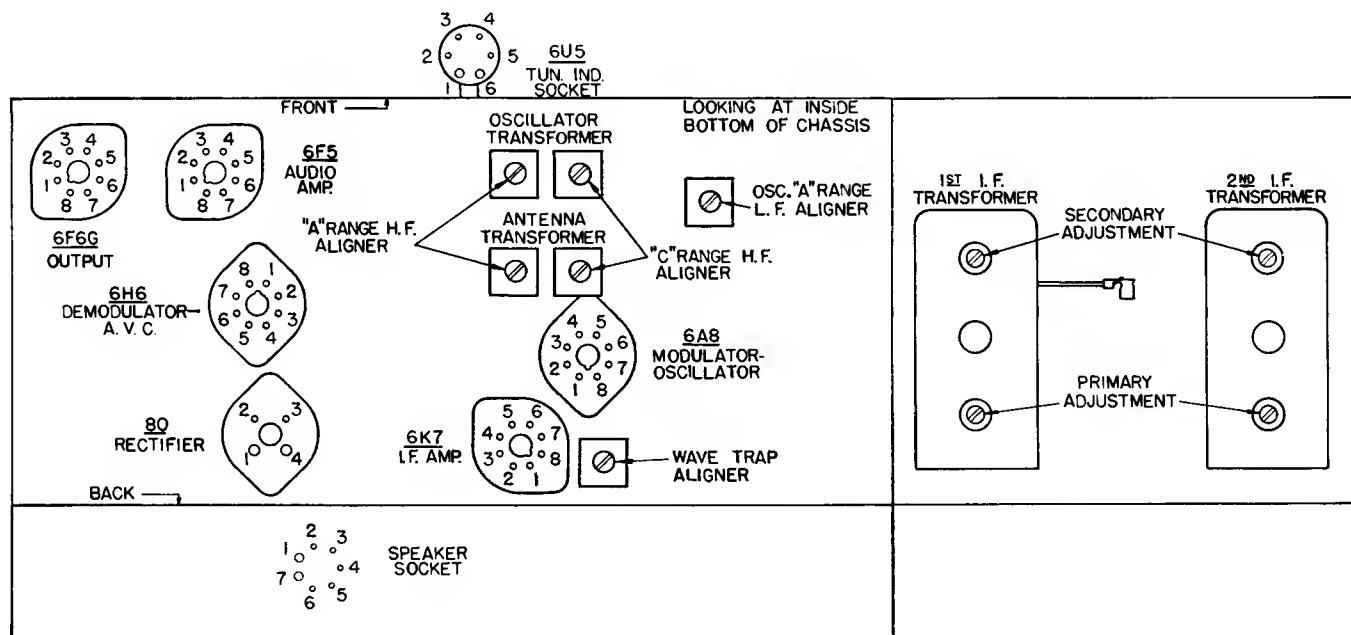

Fig. 1. Terminal Layout for Voltage Measurement Chart and Location of the Aligning Capacitors.
The values of voltages listed in the following table are obtained by measuring between the various tube socket contacts and the chassis base, with the tubes in their respective sockets. The receiver is, therefore, in full operation when the measurements are made. Figure 1, shows the terminal layout of the sockets with the proper terminal numbers.
In making any alignment adjustments, always adjust the test oscillator's output voltage to the minimum value where a good alignment may still be obtained. Never attempt to make any alignment adjustments using a strong signal. Before proceeding with the alignment of any circuits in these receivers be sure that the "Off-On-Tone" control knob is set for maximum treble response (position where knob is rotated from its maximum counter-clockwise position, slightly clockwise to position where set turns "on"), and that the electric tuning switch, located on the rear of the chassis base is rotated to the "Set-Up" position. When the aligning adjustments have been completed the electric tuning switch should be rotated back to the "Operate" position. Figure 1, shows the location of all the aligning capacitors in these receivers.
3. Now, noting from Figure 1, the aligning capacitors for the first and second I. F. transformers, align the I. F. circuits in the following manner: